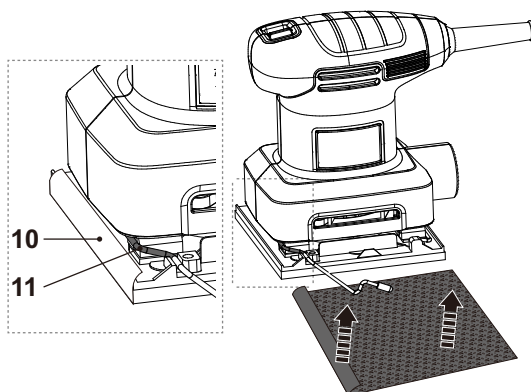

Fig. 5
- > Align one end of the sanding paper (11) to one of the clamp bars (10) and hold it in position (Fig. 5).